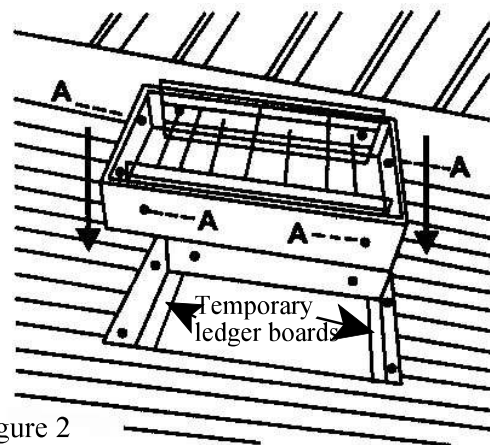

Figure 2
4. Lift the stairs through the opening in the ceiling and lower the unit onto the temporary support ledgers. Make sure that the hinged end of the cover is installed so that the stairs open in the desired direction (Fig.2).
5. Do not open the cover at this time. Secure the hinged side of the frame to the header using four 2 ½" screws (A).